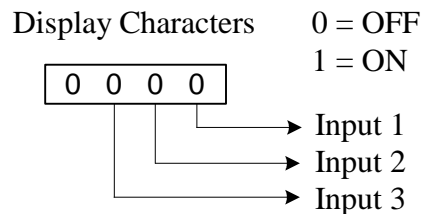

Figure 17: Display Bit Positions Associated with Switch Inputs
2.	<p>Press the ▲ UP ARROW key and the display will show the status of the three (3) switch inputs.</p> <p>When a switch is activated at one of the inputs, the corresponding display character toggles to “1.” When an input turns OFF, the corresponding display character toggles to “0.”</p> <p>Figure 17 shows the bit positions associated with the three (3) switch inputs.</p>